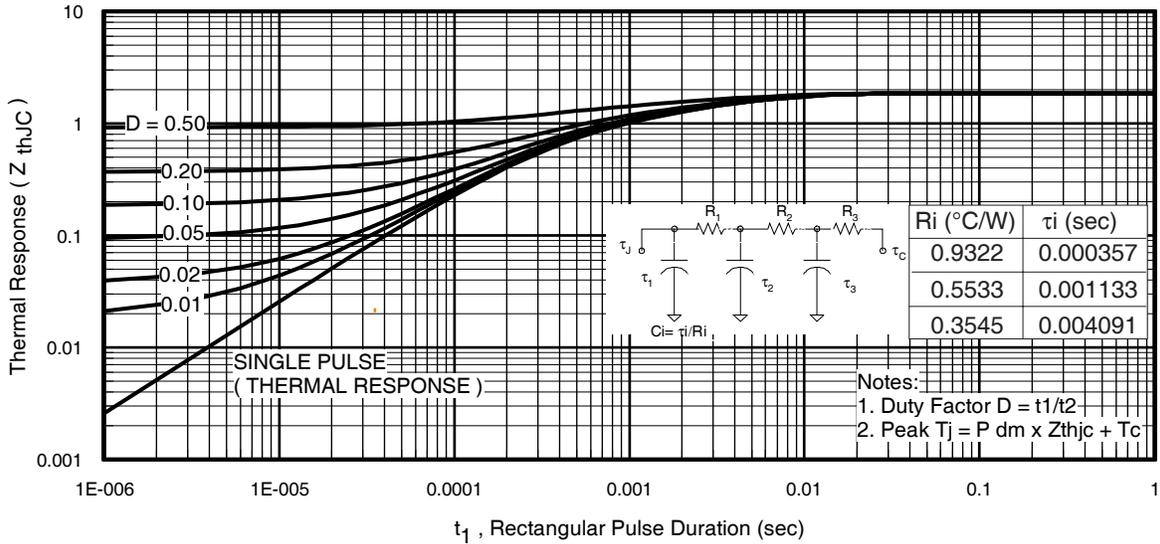
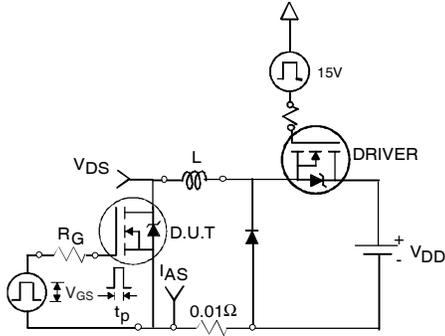

Fig 11. Maximum Effective Transient Thermal Impedance, Junction-to-Case
Fig 12a. Unclamped Inductive Test Circuit
- ① Repetitive rating; pulse width limited by max. junction temperature. (See fig. 11).
- ② Limited by T_{Jmax} , starting $T_J = 25^\circ\text{C}$, $L = 0.13\text{mH}$, $R_G = 25\Omega$, $I_{AS} = 31A$, $V_{GS} = 10V$. Part not recommended for use above this value.
- ③ $I_{SD} \leq 31A$, $di/dt \leq 1070A/\mu s$, $V_{DD} \leq V_{(BR)DSS}$, $T_J \leq 175^\circ\text{C}$.
- ④ Pulse width $\leq 1.0\text{ms}$; duty cycle $\leq 2\%$.
- ⑤ $C_{oss\ eff.}$ is a fixed capacitance that gives the same charging time as C_{oss} while V_{DS} is rising from 0 to 80% V_{DSS} .
- ⑥ Limited by T_{Jmax} , see Fig.12a, 12b, 15, 16 for typical repetitive avalanche performance.
- ⑦ This value determined from sample failure population. 100% tested to this value in production.
- ⑧ This is applied to D²Pak, when mounted on 1" square PCB (FR-4 or G-10 Material). For recommended footprint and soldering techniques refer to application note #AN-994.
3. Equation below based on circuit and waveforms shown in Figures 12a, 12b.
$Z_{thJC}(D, t_{av})$ = Transient thermal resistance, see figure 11)